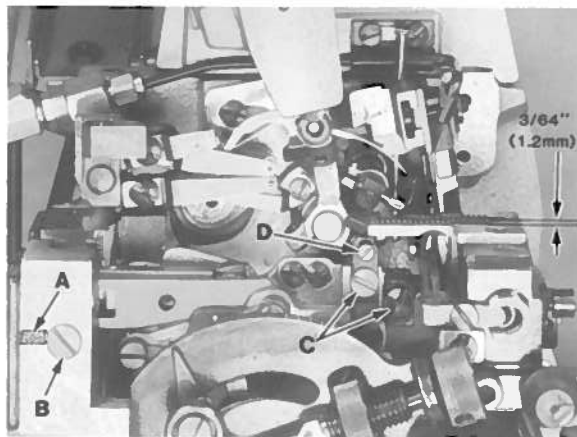

Fig. 14
Rotate handwheel in operating direction until teeth of rising feeds are above the top surface of throat plate. The feeds should be level with throat plate at this time. With feeds at highest position of travel, their teeth should extend approximately $\frac{3}{64}$ inch (1.2mm) above throat plate as shown in Fig. 14.
If adjustment is required, loosen lock screw (A) and rotate tilt adjusting pin (B) as required to level feeds, then tighten lock screw (A). Loosen feed attaching screws (C) and adjust feeds up or down to obtain proper height above throat plate as shown in Fig. 14, then tighten screws (C).